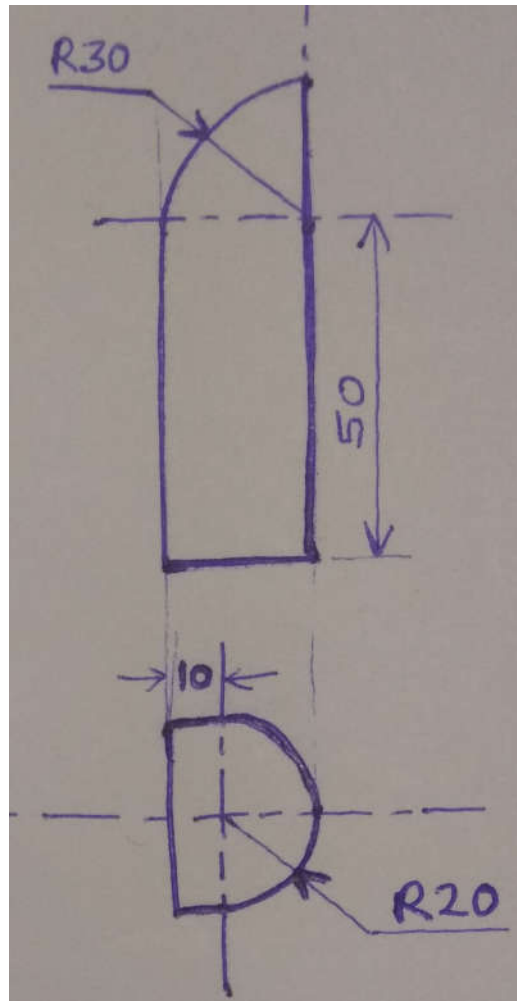

Figure 2
5. Two views of a domestic dustbin are shown in Fig 2 below. Develop the lateral surfaces of the bin.